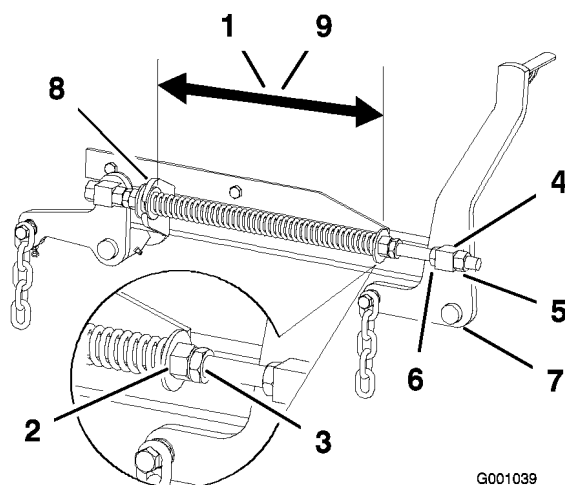

Figure 75
2. Check the distance between the two large washers, it needs to be 11-1/8 inches (28.2 cm) for 52 inch mower decks and 10-1/2 inches (26.7 cm) for 60 inch mower decks (Figure 75).
3. Adjust this distance, by loosening the spring jam nut and turning the nut in front of each spring (Figure 75). Turning the nut clockwise will shorten the spring; counter-clockwise will lengthen the spring.
4. Lock the nut into position by tightening the spring jam nut (Figure 75).